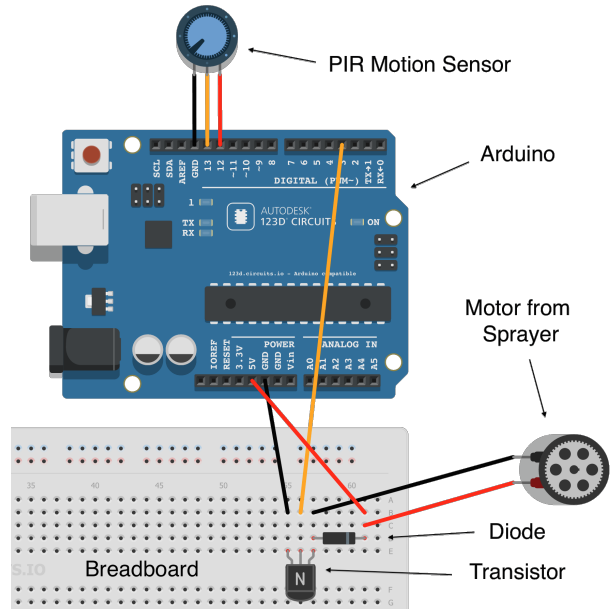

Figure 2: The completed circuit
In these steps you will assemble the circuit shown in Figure 2.
2. Install the transistor to the breadboard with the round side facing away from the Arduino in the same orientation as indicated in Figure 2.
- **Warning:** It is important that the direction of the current flowing through the diode is correct. Be sure that your diode is orientated the same way it is shown in Figure 2. Your circuit will not function if the diode isn't oriented correctly.
You should finally have a completed Arduino powered project that sprays water when it detects motion. If you don't then go back and compare your code to what is listed above and compare your circuit to what is illustrated in Figure 2. With this project you can keep your cat off the counter, keep your roommates out of your beer fridge, or surprise your friends.